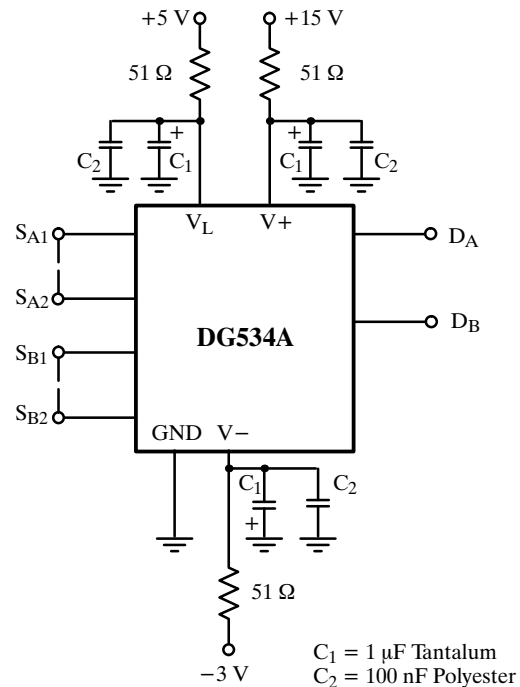

Figure 14. DG534A Power Supply Decoupling
- d. Additional high frequency protection may be provided by 51-Ω carbon film resistors connected in series with the power supply pins (see Figure 14).